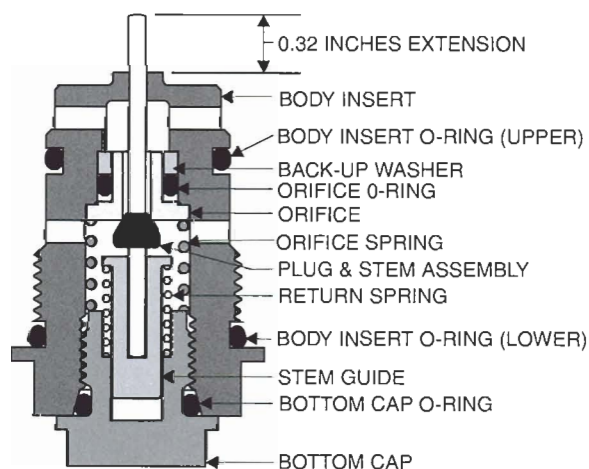

Figure 8. The Body Insert assembly drawing, PRV mode.
3. CONTROL ACTION: Inspect to make sure the Body Insert Assembly (Cartridge) is in the pressure reducing mode. The Series 20L pilot utilizes the **same** reversible Body Insert Assembly as the Series 20 / 20S / 20H / 20 HS Pilots. The Series 20L Pilot MAY NOT be used in the Back Pressure (BPV/Relief) mode to control the FLOWGRID™ VALVE because the maximum Series 20L Pilot set point range is **BELOW** the minimum differential required to open the FLOWGRID™ VALVE. Remove the Body Insert Assembly and measure the stem extension as shown below to confirm the pilot is in pressure reducing mode. If incorrect, follow the Body Insert Assembly disassembly and assembly instructions in the MAINTENANCE section of this manual (refer to Figure 8 and/or Page 17).